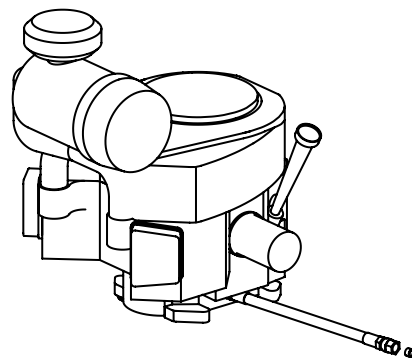

Figure 20
2. Locate the oil drain hose on the engine. See Figure 20.
5. While holding the free end of the oil drain hose over the oil collection container, unscrew the square-head hose plug from the end of the hose. See Figure 20 on page 17. Drain the engine oil into the collection container.